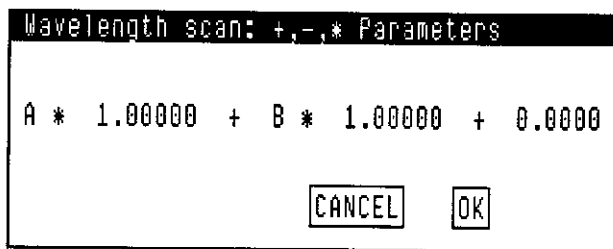

Figure 6-9. **+,* Parameters Window**
4. To input the calculation parameters, click on "Result" in the middle of the window to display the **+,* Parameters** window, Figure 6-9.